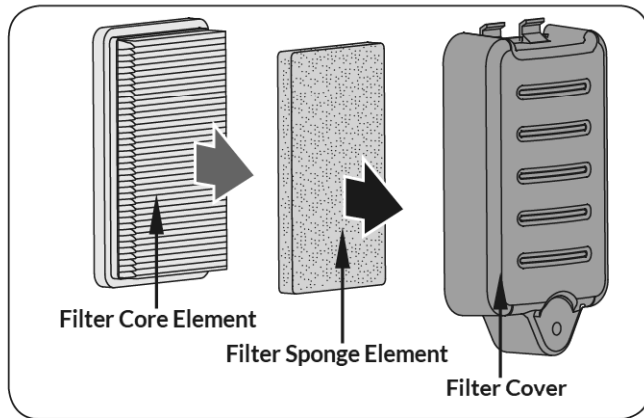

Figure 2a
1. Put the filter sponge element and filter core element into the filter cover in order. (See **Figure 2a**)